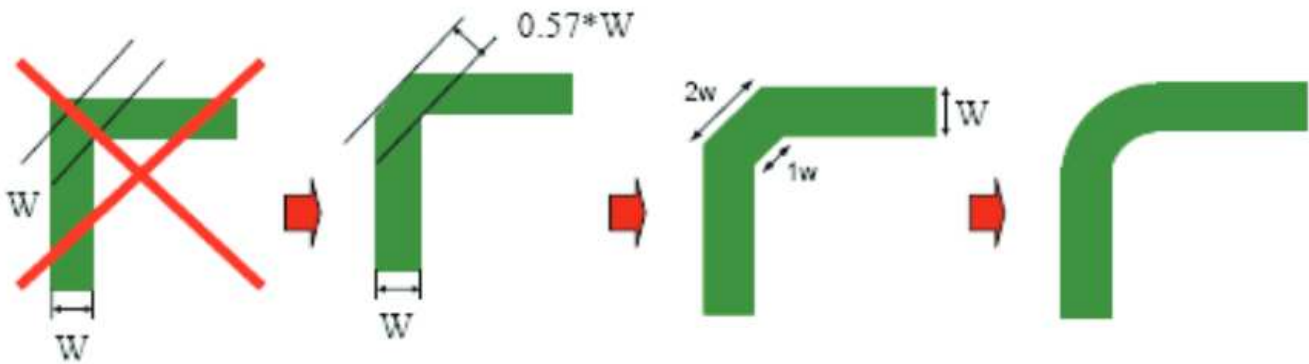

图 23. Poor and Good Right-Angle Bends
- Avoid right-angle bends in a trace and try to route them at least with two 45° corners. To minimize any impedance change, the best routing would be a round bend (see 图 23).